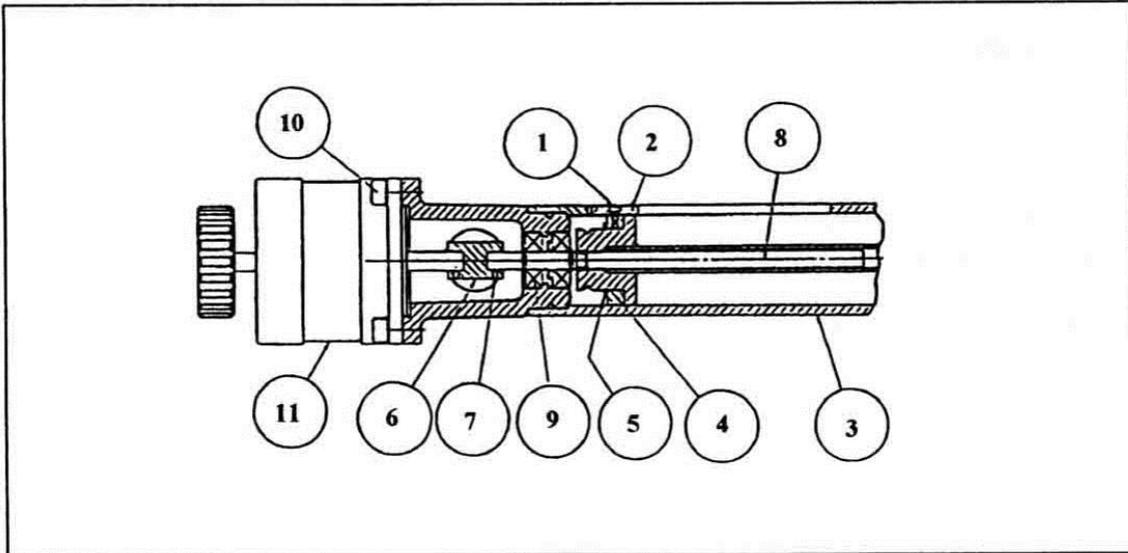
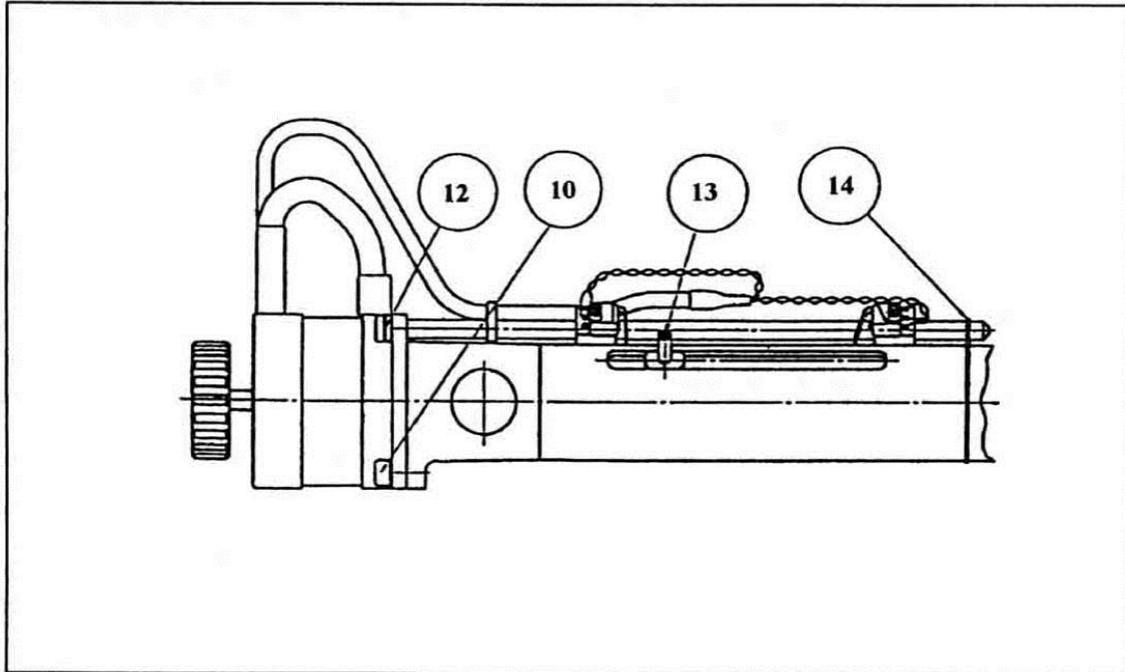

Figure 12 - Drive without Limit Switch Assembly
Figure 13 - Drive with Limit Switch Assembly
Little routine maintenance is required apart from (refer to figure 12):
2. Refer to figure 12. Rotate the motor to a position that permits access to the motor coupling set screw (7). Note that the coupling is fitted with two set screws at each end.
3. Slacken one of the set screws (7) connecting the coupling (6) to the linear drive (8). Rotate the motor through 90° and slacken the remaining screw (7).
4. If the drive unit is not equipped with limit switches, remove the four M5 motor retaining screws (10) and detach the motor coupling assembly. For drive units with limit switches, remove the M4 microswitch mounting screw and mounting rod (item (12) in figure 13), the three motor retaining screws (item (10) in figure 12). Remove the motor and the limit switch unit (attached to the rod).
1. Apply a few drops of Silicone oil to both bearings (9) and lubricate as detailed under maintenance section.
2. If the drive unit is not equipped with limit switches (figure 12), locate the motor coupling (6) to the drive shaft (8). Ensure that the motor location spigot is seated properly and tighten the four motor mounting screws (10).
If the drive unit is equipped with limit switches (figure 13), locate the limit switch mounting rod with its support (14). Locate the motor coupling (6) to the drive shaft (8). Ensure that the motor location spigot is seated properly and tighten the three motor mounting screws (10). Align the limit switches with the striker (13) and tighten the M4 fixing screw (12).
3. Rotate the motor to a position that permits access to the motor coupling set screws. Tighten the set screw (7), rotate the motor through 90° and tighten the remaining set screw.
1. Set the drive to the maximum in vacuum position (max scale reading). If limit switches are fitted slacken screw (12) and rotate the switch assembly away from the switch striker. See figures 12 and 13.
2. Remove the scale indicator screw (1), indicator (2) and switch striker* (13) (*limit switch version only).
3. Unscrew the slotted tube (3) (anti-clockwise) from the flange, tube concentric to the flange assembly. Continue rotation until the drive assembly is disconnected.